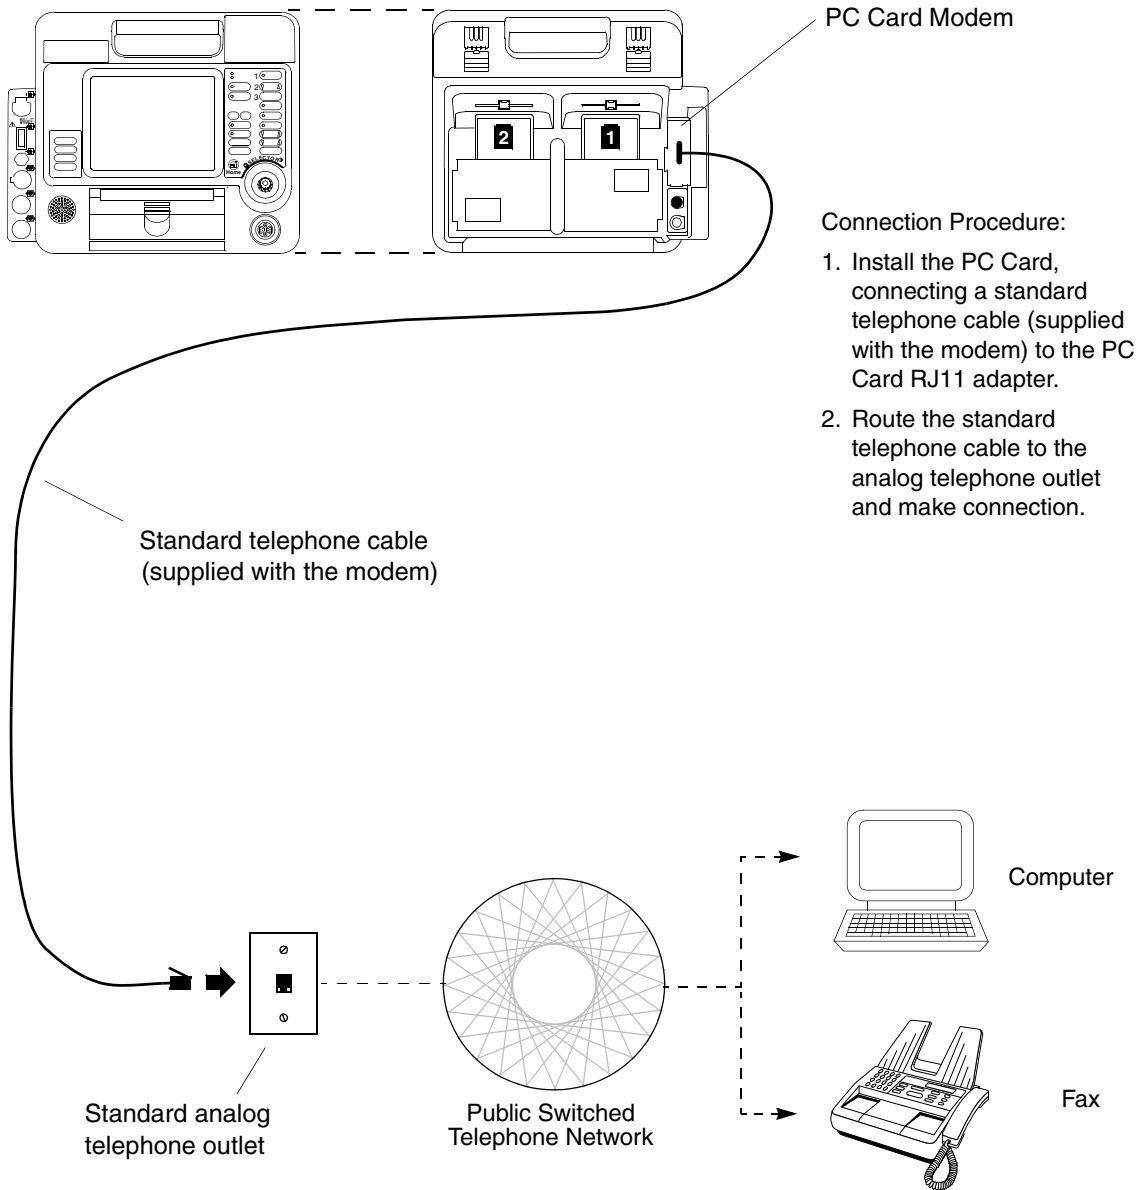

**Figure 6-3** Equipment Connections for Internal Modem – Analog Cellular
- **Internal Cell** Transmit reports by analog cellular telephone using an internal PC Card modem. Requires the following for interconnection (see Figure 6-3):
Figure 6-3 shows you the equipment connection method for transmitting reports by analog cellular telephone using an internal PC Card modem. If you want to use an analog cellular telephone other than the recommended Motorola model, contact your Physio-Control sales or service representative to confirm compatibility. For international equipment connections, see Appendix F.